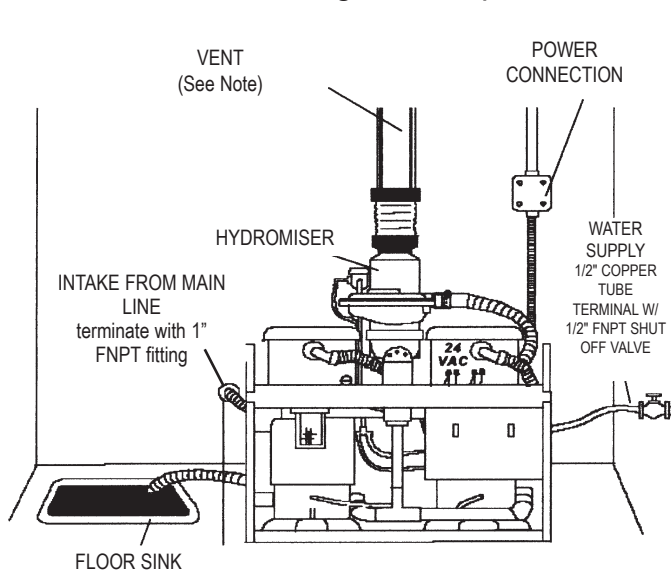

Figure 6.
- For VacStars with a HydroMiser (see Fig. 6) or an Air/Water Separator (see Fig. 7), gases should be vented out according to code. The waste water (with particulates) from the operatories can be discharged via an open drain or a closed vented drain.
Figures 6, 7 and 8 show the typical installations of the dual **VacStar™** models 50, 50H, 80 and 80H. Install the **VacStar™** by referring to the figure corresponding to the system to be installed. Single **VacStar™** models 20 and 40 are installed in the same manner. Make sure that all notes, warnings and requirements are followed.